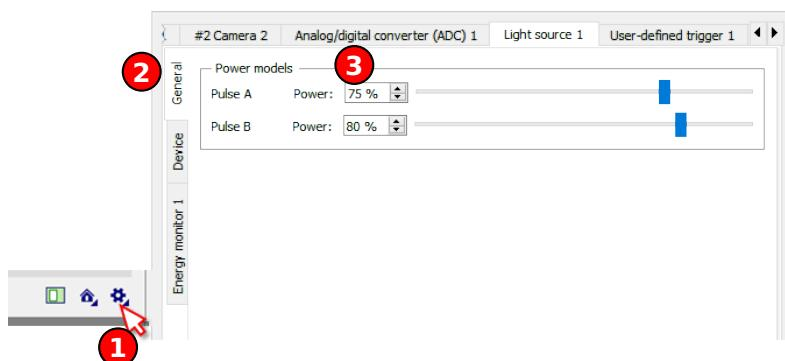
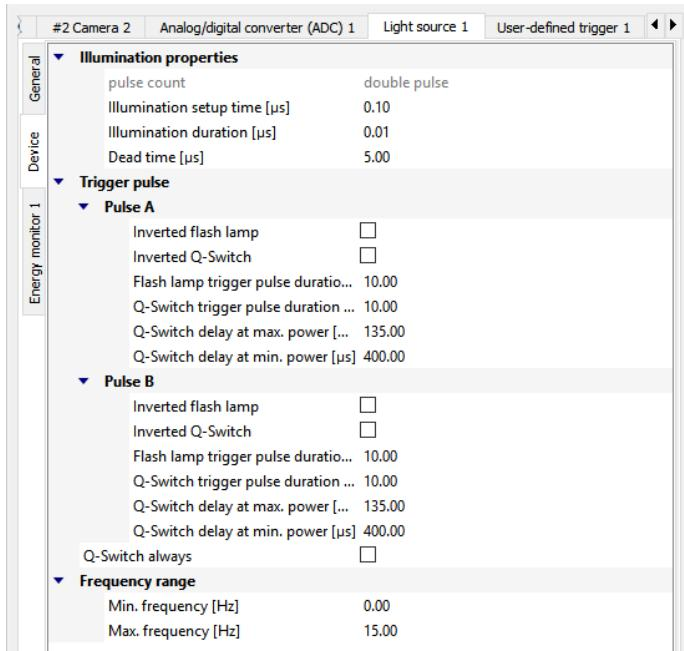
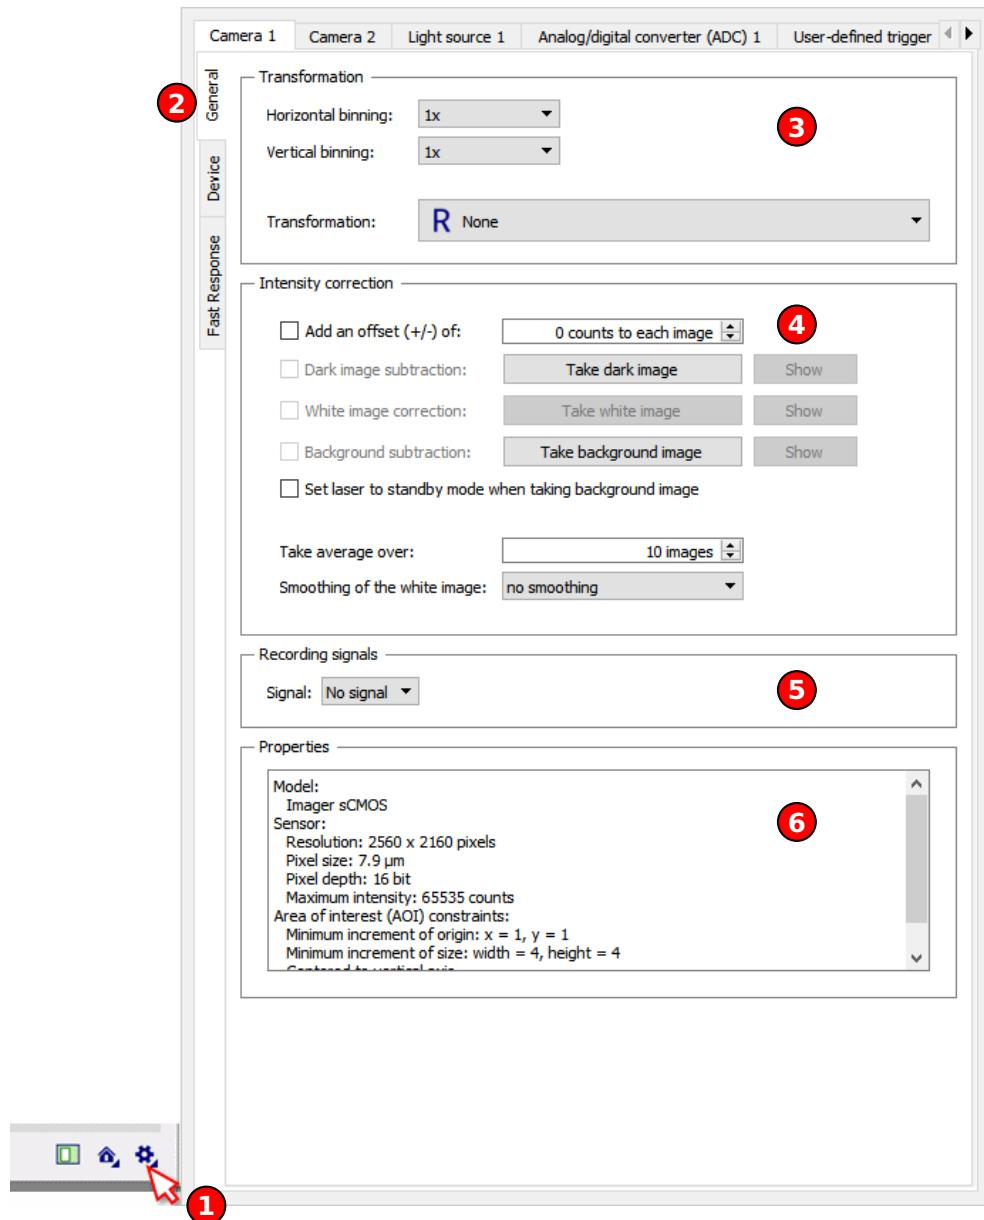

Figure 10.5: Light Source Details - General tab
Figure 10.6: Light Source Details - Device tab
Figure 10.8: Camera Details - Device tab
For each device the most important and most often used controls are available directly in this section. Settings which are more rarely used are available in the so called **device details**, a pop-up window (see Fig. 10.5, Fig. 10.6 and Fig. 10.8) which opens when clicking the settings (cogwheel) button **7** at the right lower corner of the section. To leave this window click somewhere on the underlying main window.
The **device details** window is opened by the settings button **1** of the devices section (cf. Fig. 10.5). Each light source has its own settings tab on the horizontal tab bar. On the vertical tab bar it has a **General** **2** settings tab. The **General** tab in shown example includes the same power controls **3** as in the **devices** section but with additional sliders. Other light source types can contain additional controls here. Please refer to the specific light source manual for further explanation.
The camera details are opened by the settings button in the **devices** section ① in Fig. 10.8. The desired camera can be selected on the horizontal tab bar. The camera tab itself always has a *General* and a *Device* tab on the vertical tab bar. Optionally there are more vertical tabs depending on the specific camera model and additional devices attached to the camera (like remote focus lenses, shutter or Scheimpflug angles).
The *General* tab ② contains image transformation controls ③, intensity correction controls ④ and signal options ⑤ (see Fig. 10.8). In addition
The first option in the *Transformation* group **3** in Fig. 10.8 is the camera binning in X and Y direction. Binning means to sum up the intensities of multiple pixels as one enlarged pixel. Binning can be performed in hardware and software. Hardware binning on CCD sensors sums up the charges analogue on the sensor before digitizing the image and benefits higher sensitivity and noise reductions. Software binning sums up the intensities after digitalizing and creates a higher dynamic range. For CMOS sensors some techniques exist to do a kind of a hardware binning before digitization but some just do software binning in the camera processor. Both types of hardware binning usually allow higher image rates because the transferred data size is reduced with binning.
The second option in the *Transformation* group **3** in Fig. 10.8 is the frame transformation (like mirroring or rotating) which can be selected from a combobox.
In the *Intensity correction* group (4) in Fig. 10.8 the use of live dark images, white images and background subtraction can be configured. Some camera models can provide slightly different options if they use a build in dark and white image correction (e.g. the Imager sCMOS).
The only control in the *Recording signals* group ⑤ in Fig. 10.8 is a combobox to select the type of signal. These signals can be used to tag the images for the following processing. The available signals are specific for each project and so described in the corresponding project manuals.
In the *Properties* group ⑥ in Fig. 10.8 some read only camera properties are listed like camera type, sensor size, pixel sizes, bit depth and resulting max. number of counts, ADC resolution with its resulting maximum intensity and the conditions for setting the area of interest (AOI).